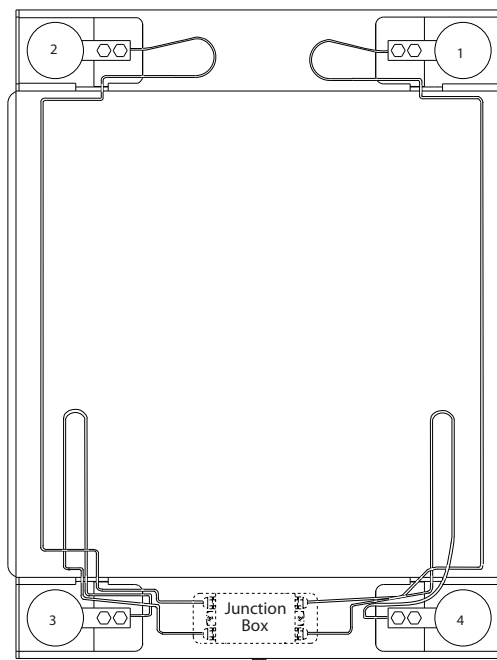

Figure 4-2. Bottom View of Scale
Remove the junction box cover and identify the correct load cell terminal corresponding to each corner (labeled CELL 1, CELL 2, and so on). See Figure 4.2 on page 14 for scale deck corner numbering.
2. Thread the cable from each load cell in the frame and into the junction box according to the wiring diagram in Figure 4-2 on page 15.